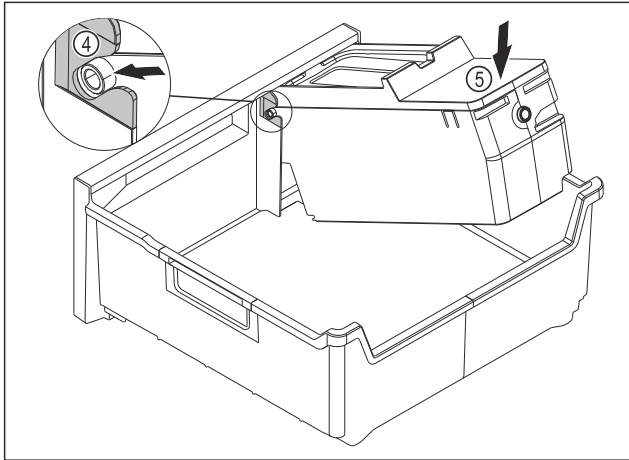

Fig. 81
- Installing the EasyTwist-Ice body: Push the axes for the EasyTwist-Ice body into the guides Fig. 81 (4).
- Press the EasyTwist-Ice body Fig. 81 (5) down at the back.